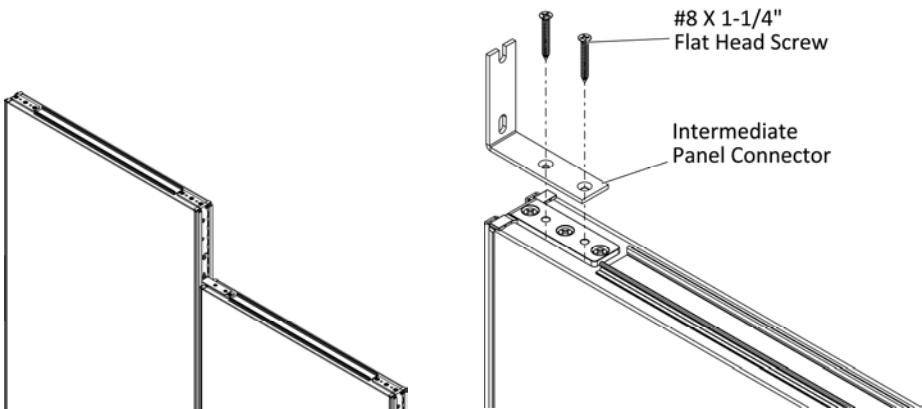

Figure 1
1. Position intermediate panel connector on top edge of shorter panel, (Figure 1).